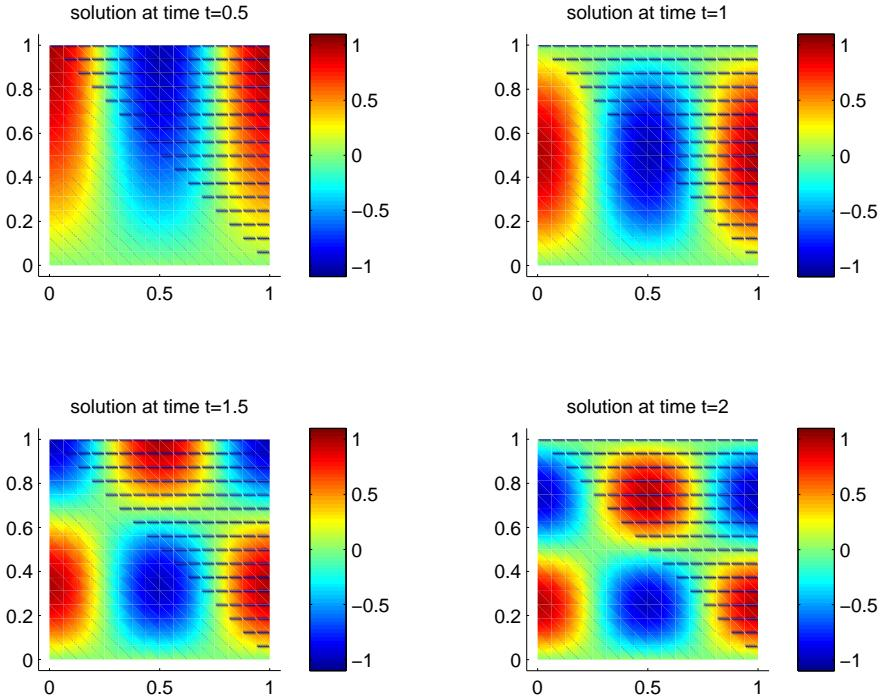

Figure 5.1: FEM approximations of the solution to the heat equation using the Crank-Nicolson time-stepping scheme.
**Solution:** See Listing 5.5 for the code and Figure 5.1 for the plots of the approximated solution.